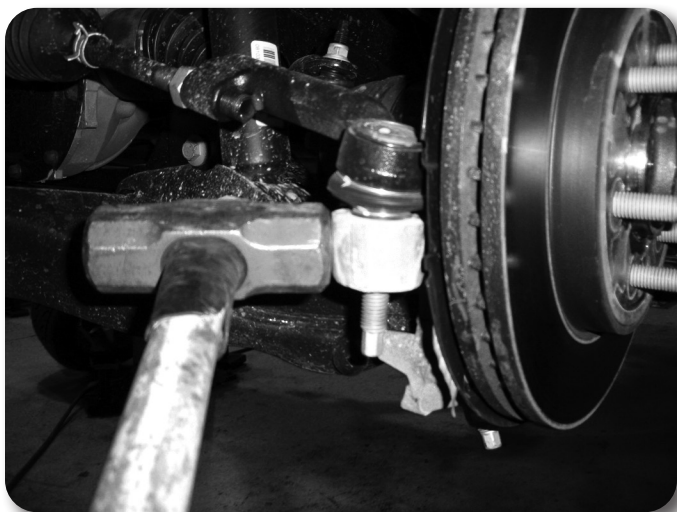

Figure 1
4. Disconnect tie rod end from the steering knuckle **Figure 1**. Strike the steering knuckle near the tie rod end to dislodge taper. Take care not to strike the tie rod end. Retain tie rod end nut.